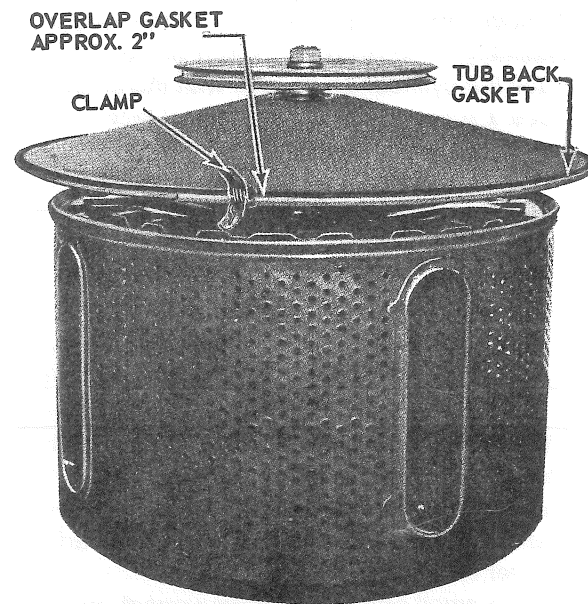

Figure 4-11 Tub Back Gasket Installation
2. A locator hole will be found in the top of the tub back. Start one end of the tub back gasket at this point. The bead on the gasket should be up. Run the gasket around the tub back. Overlap the ends approximately 2" and secure in position with a clamp. (See Figure 4-11)